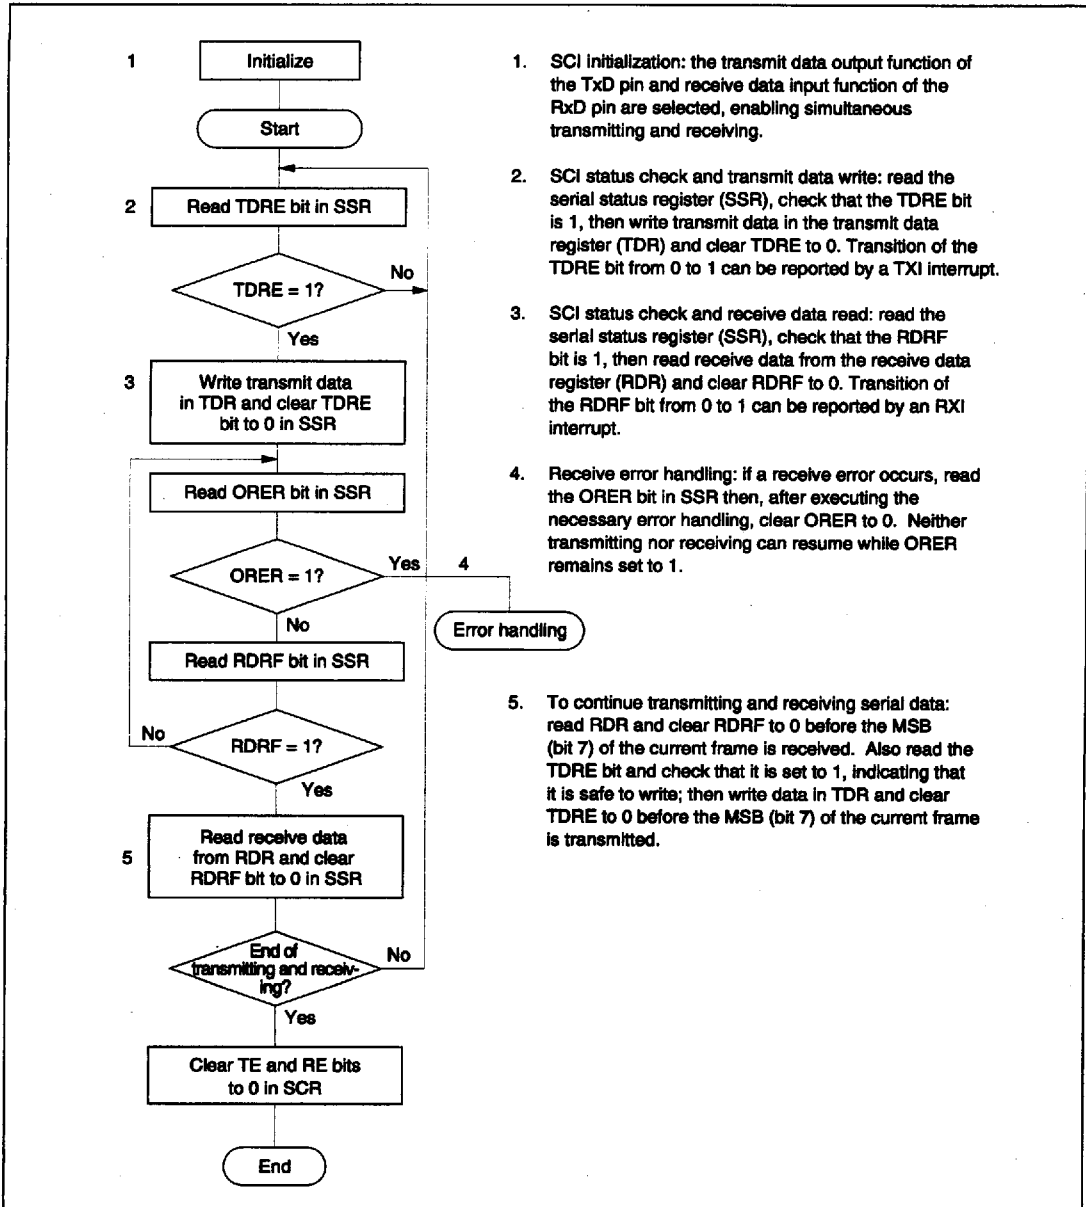

Figure 11-17 Sample Flowchart for Serial Transmitting and Receiving
• **Transmitting and Receiving Serial Data Simultaneously:** Follow the procedure in figure 11-17 for transmitting and receiving serial data simultaneously. If clock output mode is selected, output of the serial clock begins simultaneously with serial transmission.